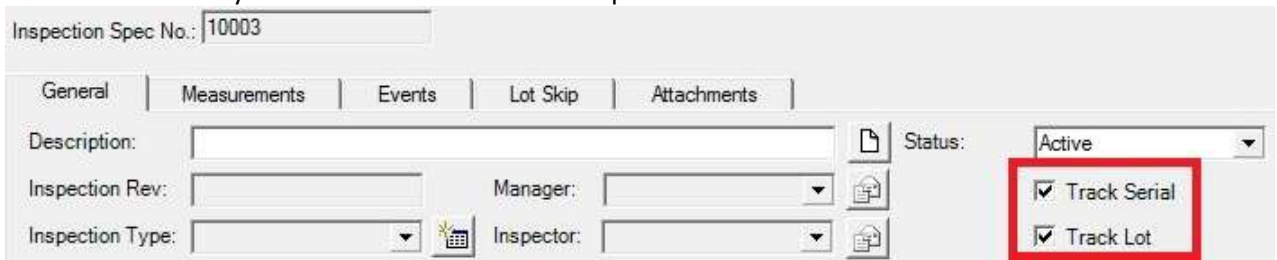

Fig. 1
- Serial and Lot have been added as standard attributes that can be checked on/off on the General tab on an Inspection Specification (**Fig. 1**). They are off by default, but when turned on, they will appear automatically for any Inspection Record Measurements created from that Specification.
- A new attribute type “Spec Lookup” has been added. This type adds the value from the most recent measurement of the most recent record from the selected specification’s attribute (**fig. 1**). This value is static, but can be updated to more recent data through the Details window accessed by clicking the information icon. (**fig. 2**)